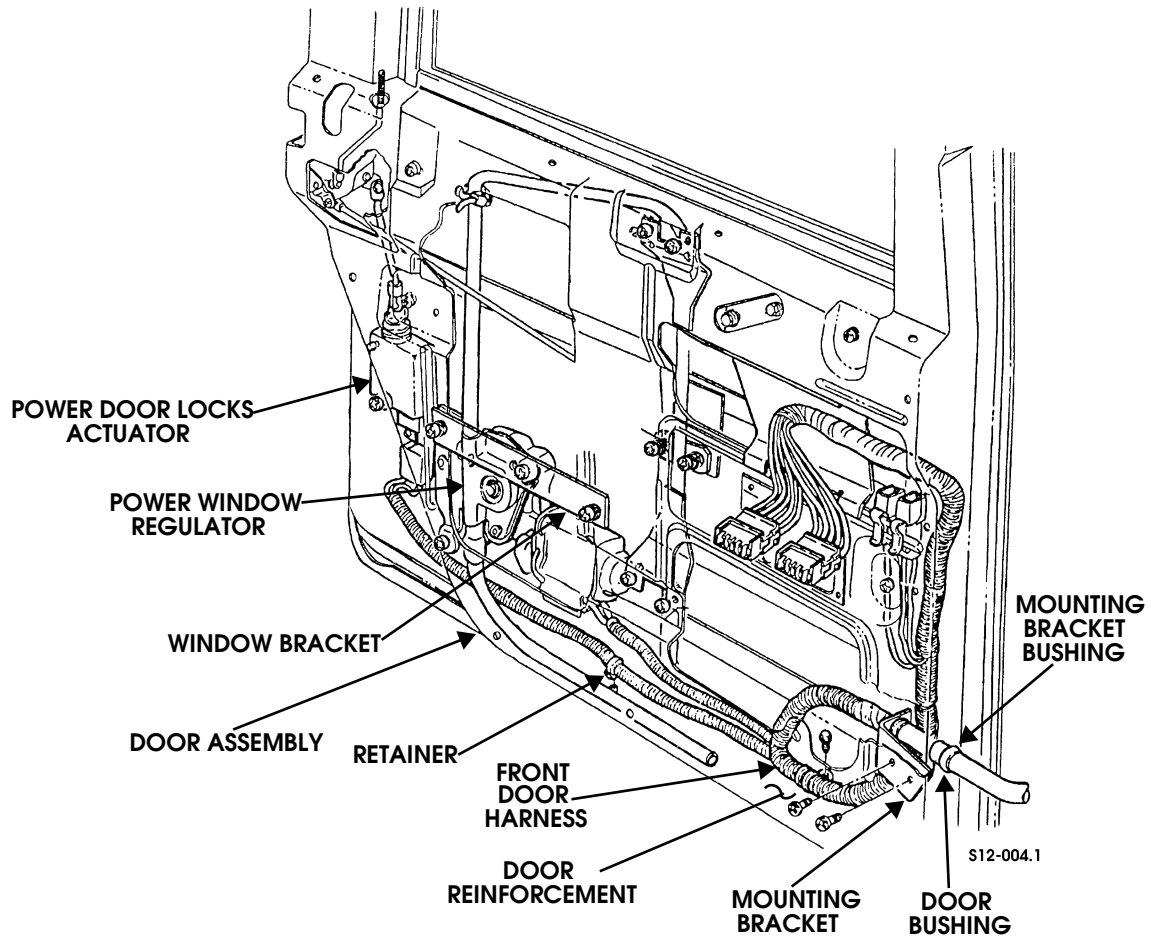

Figure 2-121: Power Windows and Door Locks Door Harness
2. Install harness mounting bracket on door assembly with two self-tapping screws (Figure 2-121).
9. Connect harness connector to power window regulator (Figure 2-121).